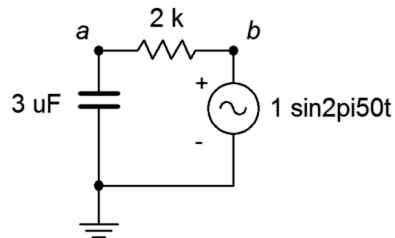

Figure 2.13
24. For the circuit of Figure 2.13, determine the circulating current.
25. Determine the impedance of the circuit of Figure 2.13 using a frequency of 1.5 kHz.
26. For the circuit of Figure 2.13, determine the circulating current and the voltages across each component. Also find the time delay between the voltages of the components.
27. For the circuit of Figure 2.13 with a frequency of 1.5 kHz, determine the circulating current and the voltages across each component. Also find the time delay between the voltages of the components.